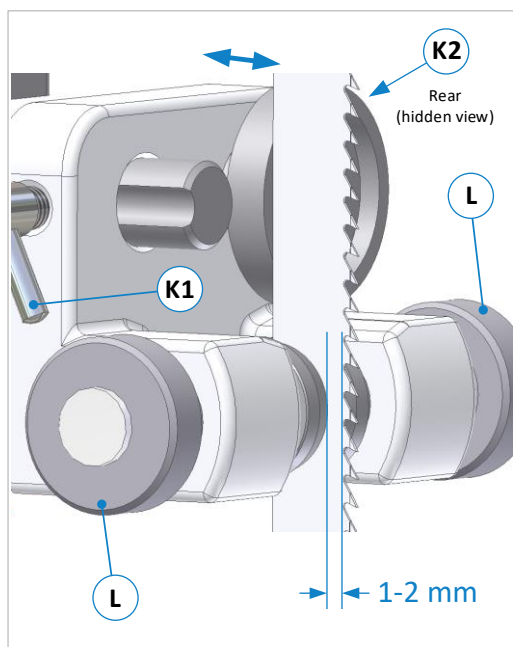

Figure 27: Adjusting the guides
- Loosen the tommy screw (**K1**) and adjust the complete guide on the support bolt (**B**) by moving it so that the front edges of the side rollers are approx. 1 - 2 mm behind the tooth base of the saw blade (see ⇒ Figure 27).